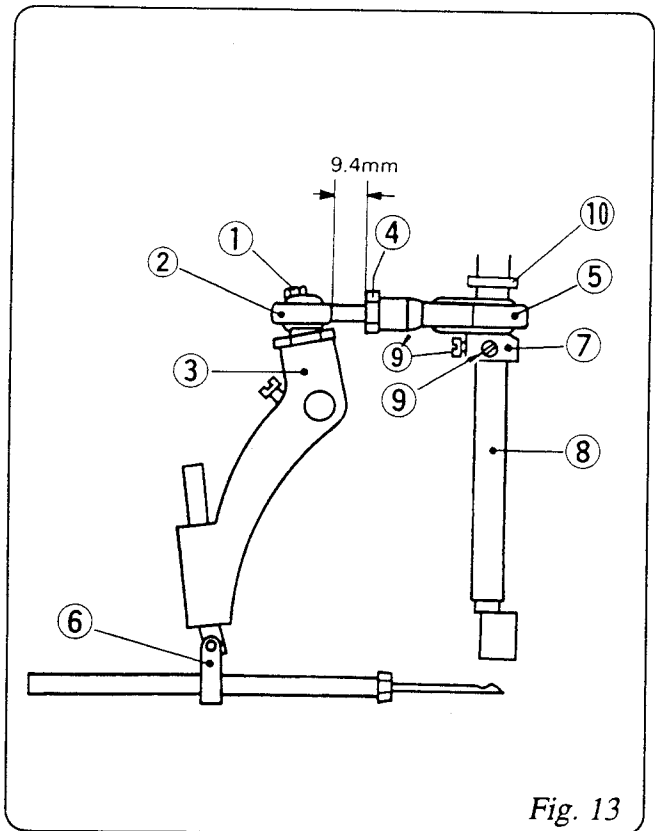
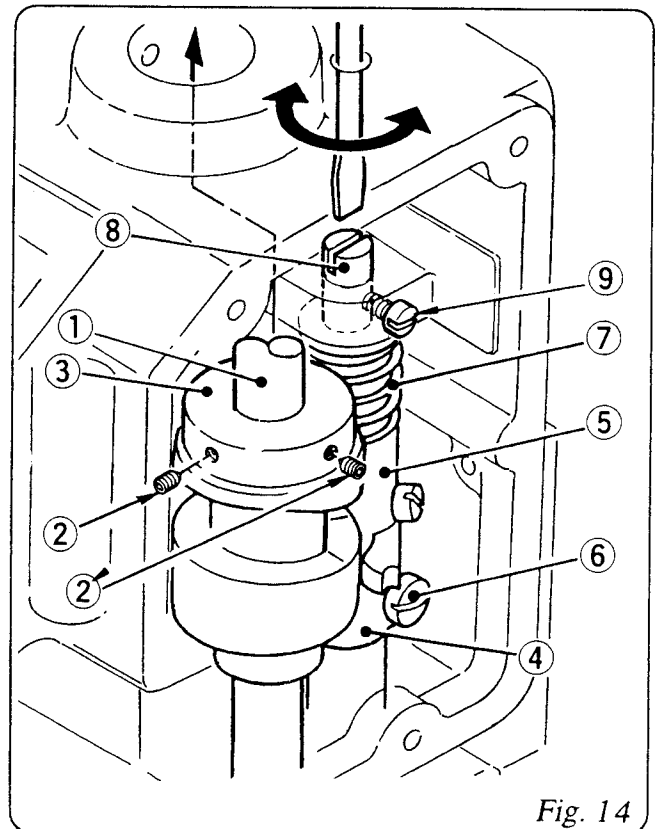

Fig. 13
Fig. 14
For replacement or adjustment of Ball Rod, refer to Fig.13.
To fix Eccentric Cam ⑦ on Main Shaft ⑧, tighten the Screws ⑨ and ⑨ on Main Shaft ⑧ (Eccentric Cam ⑦ should contact Spacer ⑩ slightly.). The position of Needle is adjusted so that the distance between the point of Needle (at its highest position) and Throat Plate is 13 mm, after loosening screw on Needle Bar Connection Assembly ⑥ in Fig.13.
- ① Screw 11/64S40084
- ② Rod End 6A04001
- ③ Needle Bar Lever 242051A
- ④ Nut 1N8
- ⑤ Connecting Rod Assembly 242011A
- ⑥ Needle Bar Connection Assembly 242101A
- ⑦ Eccentric Cam (part of Connecting Rod Assembly) 242011
- ⑧ Main Shaft 241102
- ⑨ ⑨ Screw 11/64S40001
- ⑩ Spacer 241161
Adjust Looper Drive Cam ③ When necessary as follows: (Refer to Fig.14.).
- a) Apply the Screws ② and ② on the taper of Main Shaft ①.
- b) Adjust Arm (B) ④, so that Looper Drive Cam ③ and Arm (A) ⑤ move smoothly. After adjusting, fix the Screw ⑥ tightly.
- c) The clearance between Looper Drive Cam ③ and Arm ⑤ is effected by Spring ⑦. Loosen Screw ⑨ and turn Spring Supporter ⑧ to adjust the pressure of Spring ⑦. After adjusting, tighten the Screw ⑨ to fasten Spring Supporter ⑧.
- ① Main Shaft 241102
- ② ② Screw 15/64S28524
- ③ Looper Drive Cam 243012
- ④ Looper Rocker Shaft Arm (B) 243081
- ⑤ Looper Rocker Shaft Arm (A) 243071
- ⑥ Screw for Looper Rocker Shaft Arm (B) 11/64S40009
- ⑦ Spring 243131